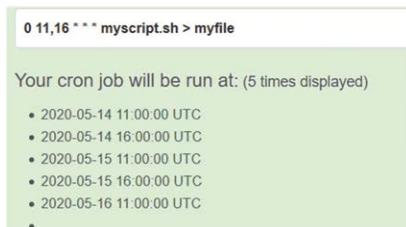

Figure 6.19: The generated line.
- You should see the generated line as shown in Figure 6.19, which is:
- The tool also displays sample dates and times that the script file will be scheduled to run. It is clear from Figure 6.19 that the script file **myscript.sh** will run at 11:00 a.m. and 4:00 p.m. every day.